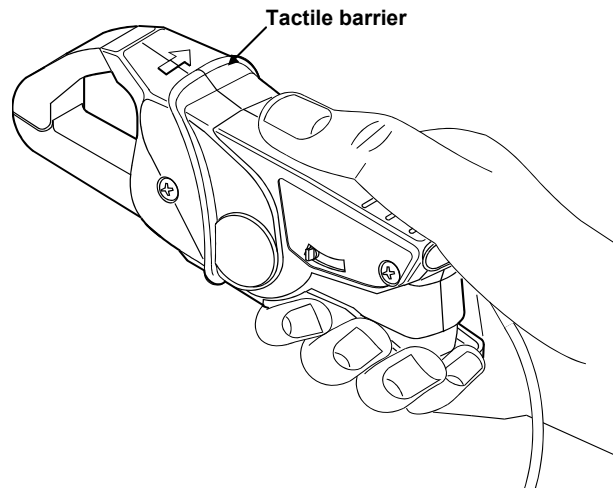

Figure 1. Safely holding the Current Clamp
- Do not hold the Current Clamp against the body or barrier, see Figure 1.